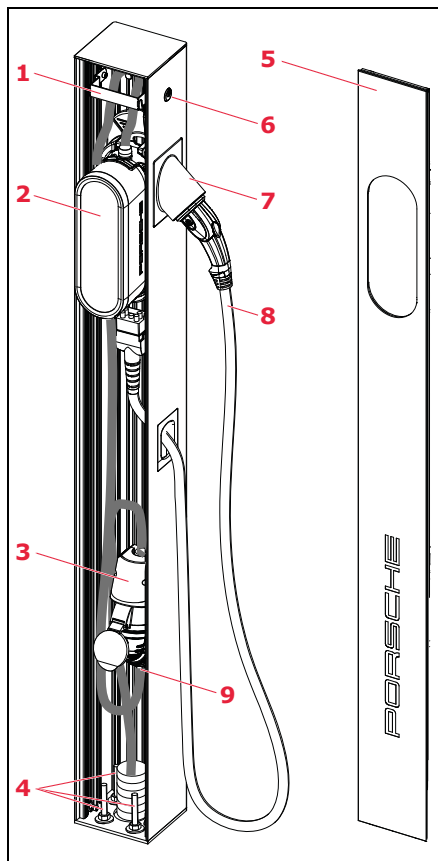

Fig. 1: Parts overview
- Country-specific plug adapter for charging plug holder (see Fig. 1, item 7)